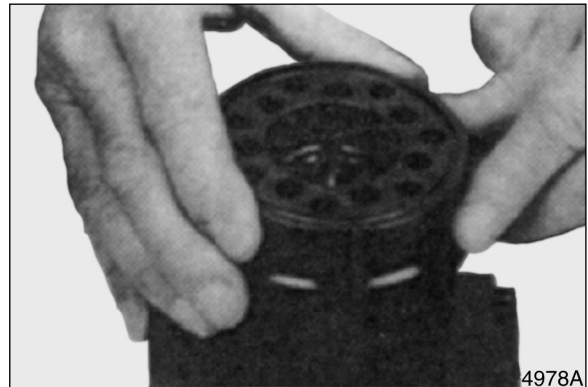

Figure 48
18. Install middle plate onto housing. See Figure 48. Be sure to properly align plate holes with holes in housing.